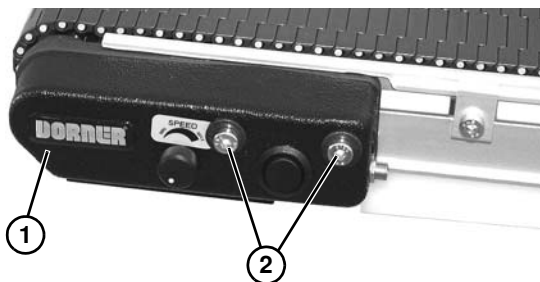

Figure 79
7. Install inframe drive side cover (Figure 79, item 1) with two head plate fastening screws (Figure 79, item 2).